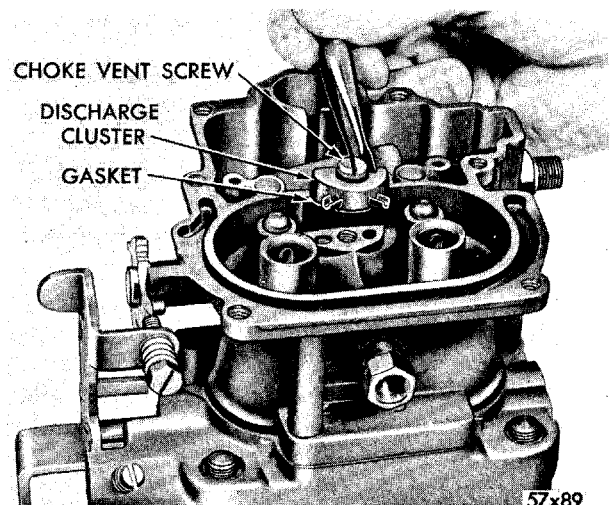

Fig. 8—Removing or Installing Discharge Cluster
(11) Remove the screw and gasket from the accelerator pump discharge cluster, then lift off cluster and gasket, as shown in Figure 8.